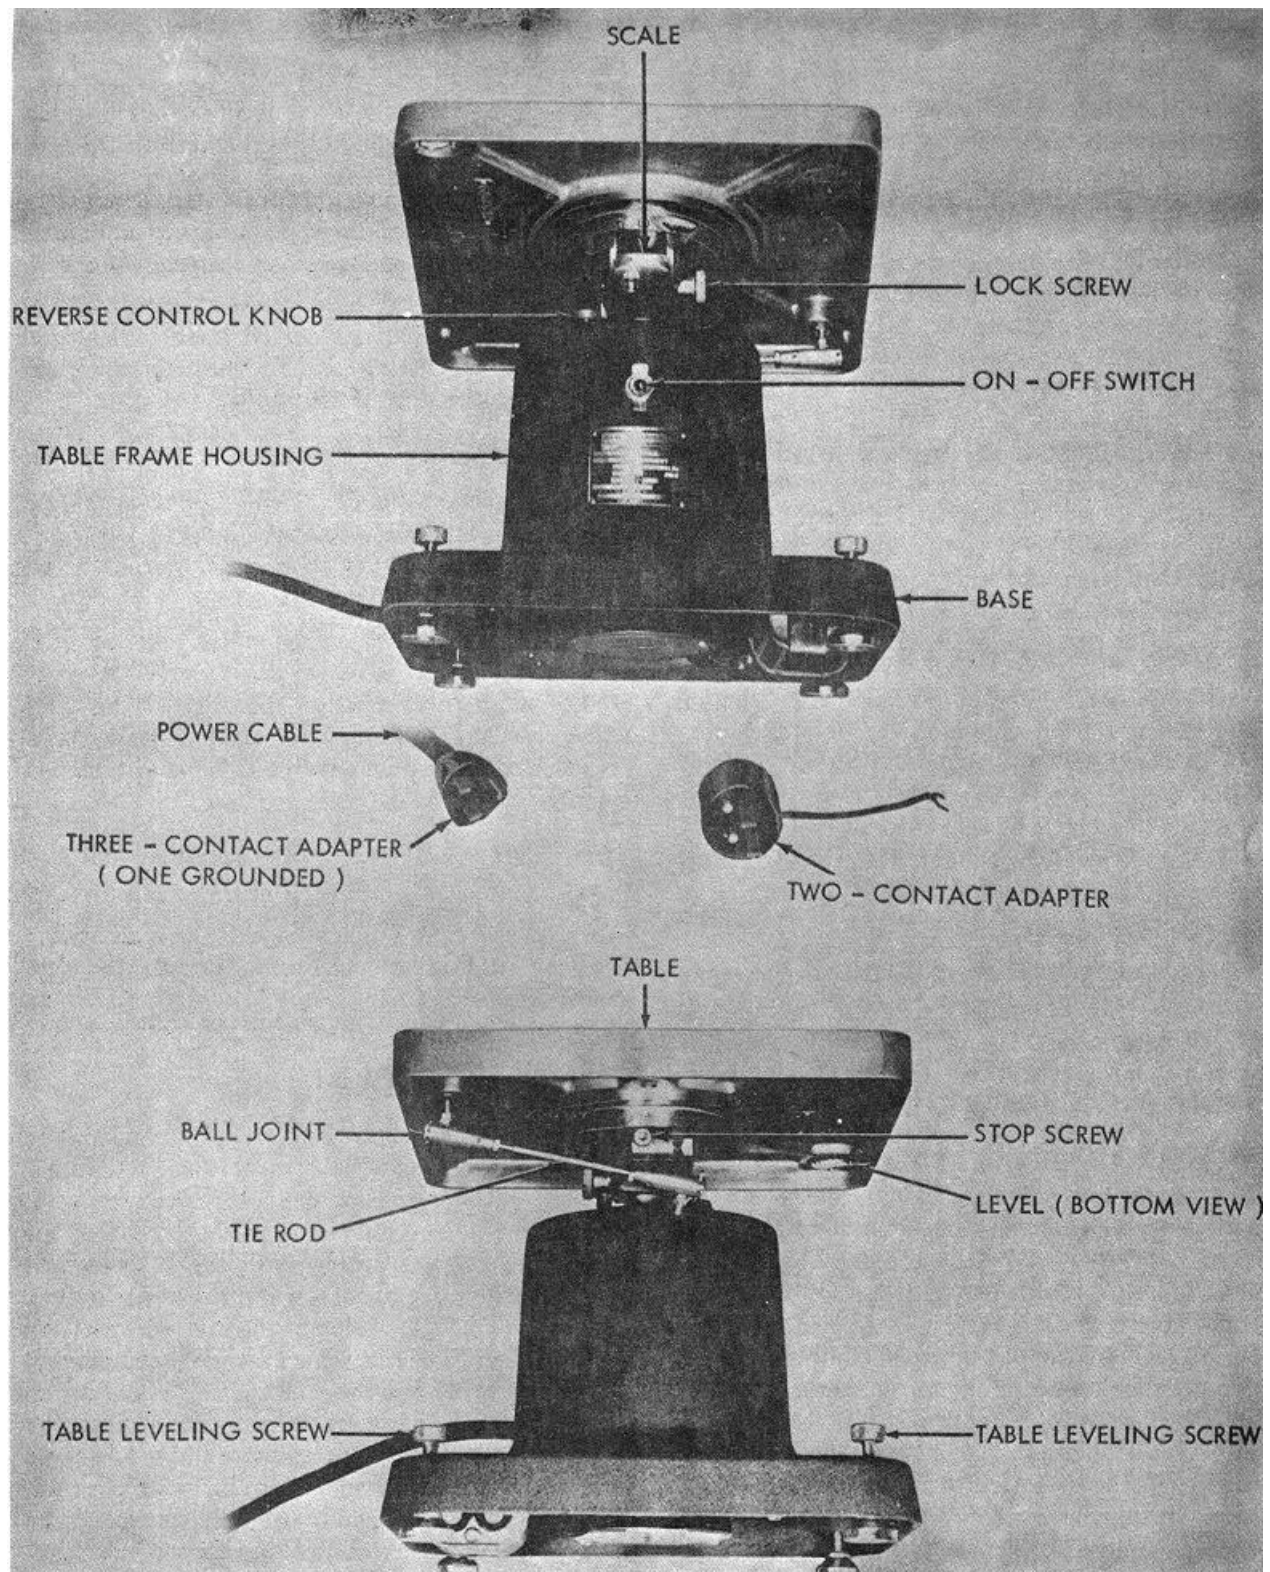
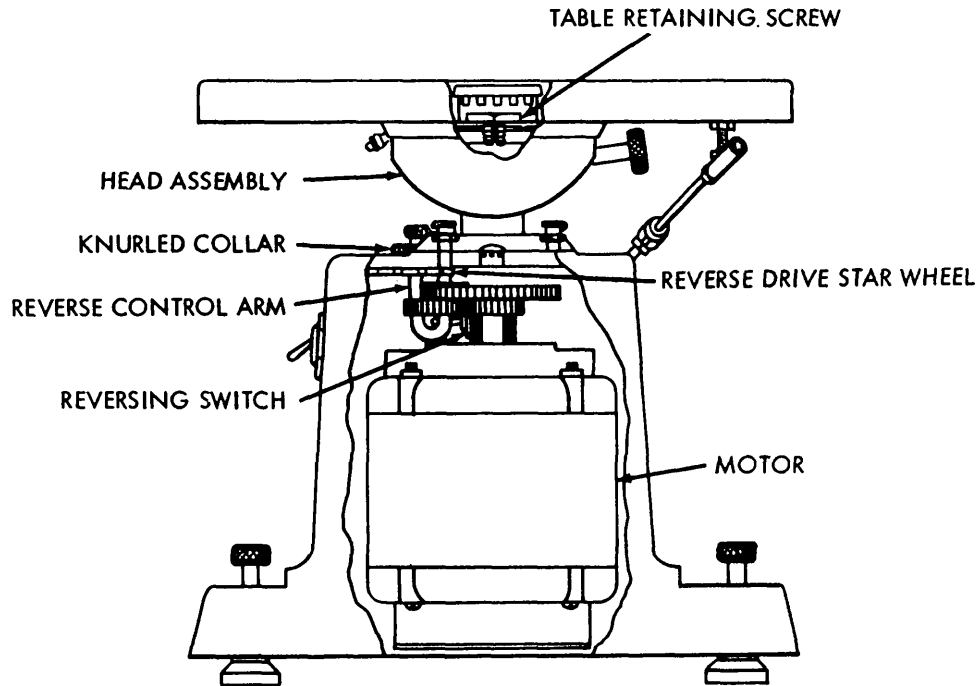

Figure 6. Controls.
Figure 7. Cross-sectional view of Scorsby table.
The tie rod (fig. 6) is located under the table at the right side and connects from the table to the table frame housing by means of ball joints. The tie rod prevents the table from rotating, when in the level (non-tilted) position, while the motor is running. If the table is tilted and the motor is running, Scorsby motion (oscillation) of the table will result. Disconnecting the tie rod from the table results in complete rotation of the table, along with the head, either with the table tilted or level, in its horizontal plane.
The four table leveling screws (fig. 6) are located in the base of the table assembly, one in each corner. The circular level is located on the front of the table in the left hand corner. By adjustment of the four table leveling screws and observation of the level, the table can be leveled in its horizontal plane.
The ON-OFF switch (fig. 6), located on the front of the table frame housing above the unit identification plate, controls application of electrical power to the motor for rotation of the head assembly of the Scorsby table.
The reverse control knob (fig. 6) is located on the top of the table frame housing on the left and to the front directly below the table. The reverse control knob is provided to allow use of either the automatic or manual reversing feature of the table assembly. The head of the table assembly can be set to reverse its direction of rotation automatically every six cycles (approximately once each minute) by lifting up on the reverse control knob. In addition, the direction of rotation of the head of the table may be reversed at any time by moving the knob to the lower position and turning it manually in the direction of desired rotation.
The stop screw (fig. 6) is located on the table assembly directly below the table and to the left of the scale. The stop screw is provided to set the angle of tilt of the table (up to 15°). By pushing on the edge of the table at the stop screw end, after the clamp screw is released, the table can be set to the desired angle and the stop screw turned inward. Thereafter, if the table is leveled it can be returned to the original setting held by the stop screw by pressing on the edge of the table.
The lock screw (fig. 6) is located on the table assembly directly below the table and to the right of the scale. It serves to hold the table in the position at which it is tilted.
The scale (fig. 6) is located directly below the table on the center block of the table assembly near the stop screw. The scale is calibrated with graduation marks at 0, 1 1/2, 5, 7 1/2, 10, and 15° to indicate the angle at which the table is tilted.
The reversing switch (fig. 7) is located inside the table frame housing with its toggle lever positioned in between the curves of the reverse control arm. It functions to reverse rotation of the head of the table assembly alternately (once every six cycles) automatically. A finger on the reversing switch knob drive engages a slot in the star wheel of the switch drive. The star wheel is rigidly attached to the knurled collar just below the reversing switch knob. The automatic reversing mechanism can be disconnected by pressing down on the reversing switch knob so that it snaps into its lower position. The rotation of the head of the table assembly can then be reversed by controlling the switch manually as explained in paragraph 15.
- (1) Refer to paragraph 39 and perform the before operation services given in table I.
- (2) Make certain ON-OFF switch (fig. 6) is in OFF position, and connect power cable to a 110-volt ac 60-cycle electrical power source.
- (3) Proceed with tests as outlined in the applicable handbook for the gyroscopic instrument being tested. Place ON-OFF switch in ON (up) position to apply power to table assembly.
Make certain lock screw (fig. 6) is loose and set table in its horizontal position by bearing down on edge of table opposite stop screw side. Adjust the four table leveling screws in the base of the table assembly and level table by centering bubble in level (fig. 1) mounted in table.
a. *Scorsby Motion* (fig. 2). To obtain Scorsby motion, the table must be tilted and held in a stationary position. To accomplish this, tilt the table as described in paragraph 27. Also, table-to-table frame housing linkage (tie rod and ball joints fig. 6) must be connected to prevent table from rotating. If detached, secure at ball joints to table and table housing frame. Under these conditions, when power is applied to the motor, the head assembly (fig. 7) will rotate, but the table will remain stationary and Scorsby motion will be developed.
b. *Turntable Motion*. To obtain the turntable motion, the table may be tilted or set in the horizontal position; however, it must be free to rotate. To accomplish this, unscrew ball joint (fig. 6) from table to detach table-to-table frame housing linkage. With this arrangement, when power is applied to the motor, the head assembly will rotate carrying the table with it.
a. *Automatic Reversal*. Automatic reversal is set by placing the reverse control knob (fig. 6) in its upper position. The reverse control arm (fig. 7), which is attached to the shaft of the reverse control knob, thereby, meshes with the reverse drive star wheel. The star wheel which is rigidly attached to the knurled collar (fig. 7) at the base of the control knob is driven by a series of gears attached to the motor shaft. Since the reverse control arm operates the reverse switch, lifting the reverse control knob to its upper position allows the motor to actuate the reverse switch to automatically
b. *Manual Reversal*. Manual reversal is accomplished by placing the reverse control knob in its lower position and turning it in the direction of desired rotation. Since in this lower position, the reverse control arm (fig. 7) does not mesh with the star wheel, it is disconnected from the motor shaft and automatic reversing cannot occur. However, manually turning the reverse control knob, to which the control arm is attached, will activate the reversing switch to reverse the direction of head assembly rotation and, in turn, table rotation or Scorsby motion oscillation as the case may be.
The table (fig. 6) can be tilted to any preset angle, as determined by the setting of the stop screw, up to the 150 limit set by the design of the head assembly. Since the center block of the head assembly is provided with a slot rather than a hole for accommodation of the lock screw which holds the top plate and table in position, the table can be tilted by proceeding as follows:
- Loosen the lock screw and press down on the edge of the table at the stop screw end to position the table at the desired angle of tilt as indicated on the scale (fig. 6).
- (1) Apply the equivalent of approximately Y inch ball of high quality bearing grease, such as MIL-G-27343, at the grease fitting on the head assembly. Remove the access cap on the top right portion of the table frame housing (fig. 6) and apply the same amount of grease on the teeth of the gears which are accessible through the hole. Replace cap.
- (3) Lubricate the shaft of the compound gear assembly by applying two drops of oil to the oil cup nearest the reverse control knob (fig. 6).
- (4) Apply a drop of oil to shaft of the reverse control knob.
- (5) Apply a drop of oil on the grooves at each end of the trunnion block which slides when the table is tilted. Work block several times through full travel.
- (6) Apply a drop of oil on the ball of each ball joint of the table tie rod (fig. 6).
- (7) Apply a drop of oil to the shaft of each of the four leveling screws. Work screws in and out.